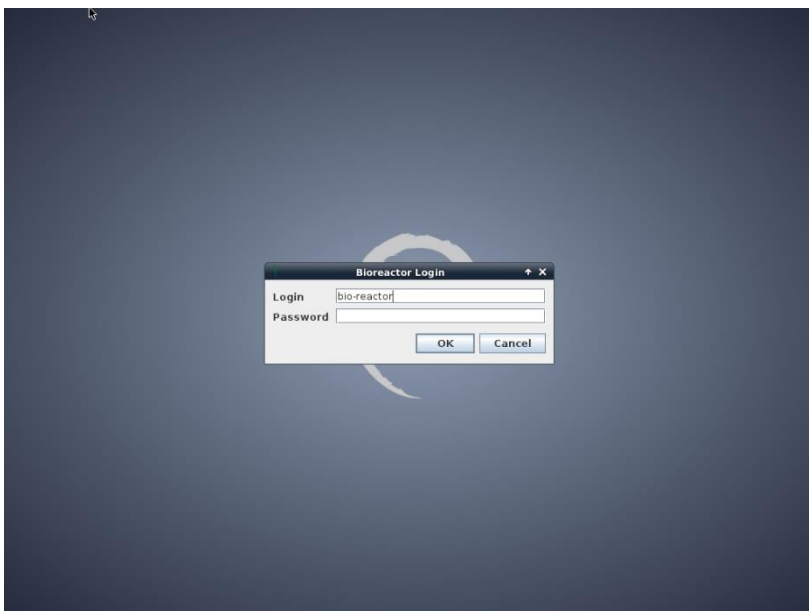

Fig. 63 Debian desktop with bioreactor GUI login
- After successful installation the computer should boot into Bioreactor client login screen (Fig. 63).